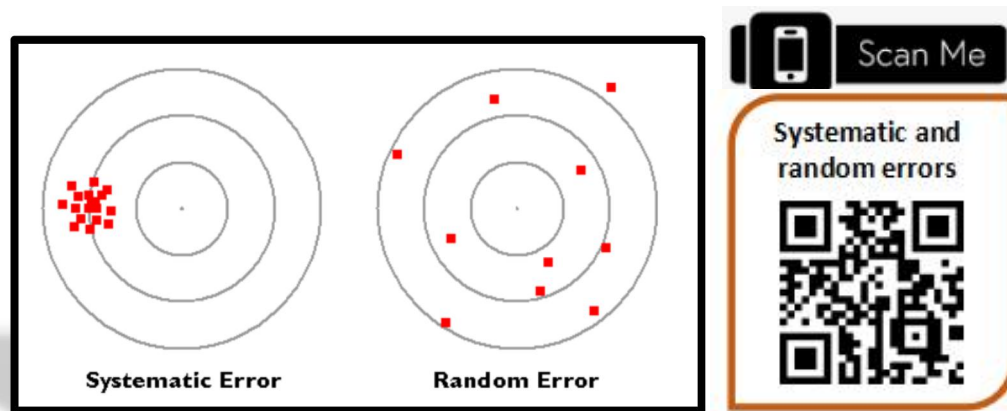

Figure 1.6 Contrast between systematic and random errors
- **Figure 1.6** illustrates the contrast between systematic and random error